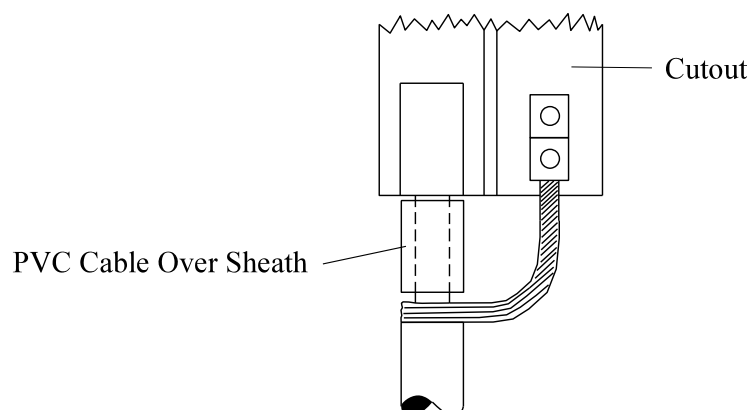

Fig 2
- 8.9. Apply and secure some PVC cable oversheath around the phase conductor insulation - Fig 2.